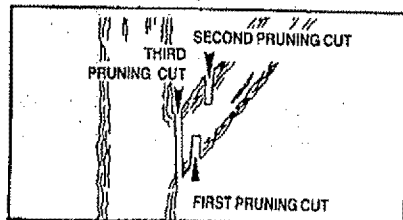

Figure 27
- b. Refer to Figure 27 for the pruning techniques.